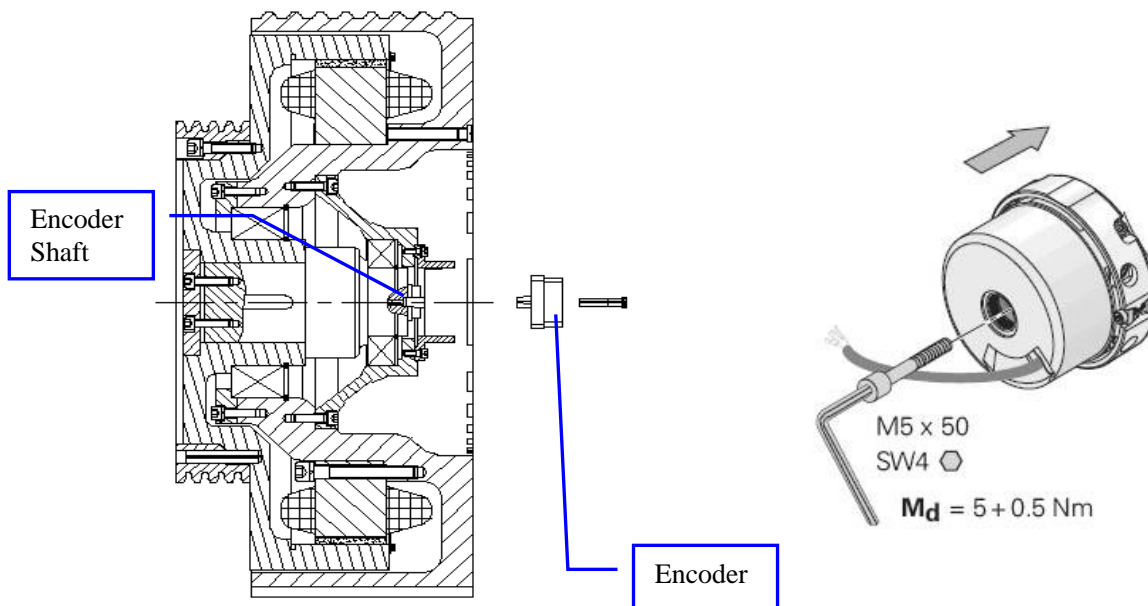

Figure 17: Attach the encoder
3. Install the encoder on the encoder shaft. Use the bolt M5 to secure the encoder to the encoder shaft using a hex wrench (4mm). Use 4mm socket Allen and torque wrench to tighten the bolt to 44 in-lb. (5 Nm). See Figure 17.